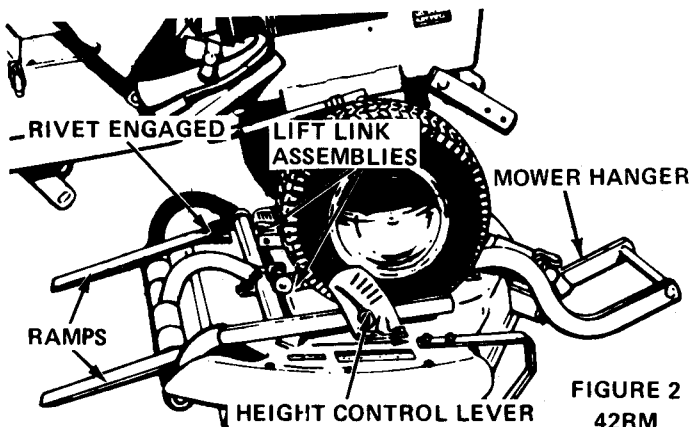

FIGURE 2
2. Place the ramps, Figure 2, on the rear of the mower deck. Be sure the rivets in the ramps are engaged in the holes provided in the mower deck.
3. Place the height control lever, Figure 2, all the way down so the roller is not supporting the weight of the mower and place the two mower lift link assemblies to the front.
10. Adjust the height control lever, Figure 2, into the height notch of the adjustment quadrant.